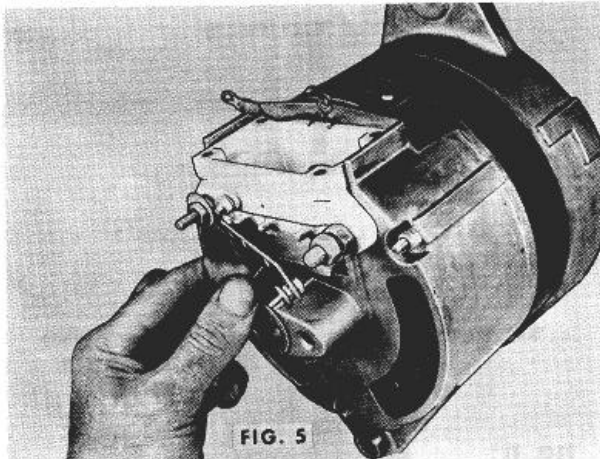

Fig. 5
5. Remove three nuts and lift diode trio off of AC terminal studs. (See Figure 5.)